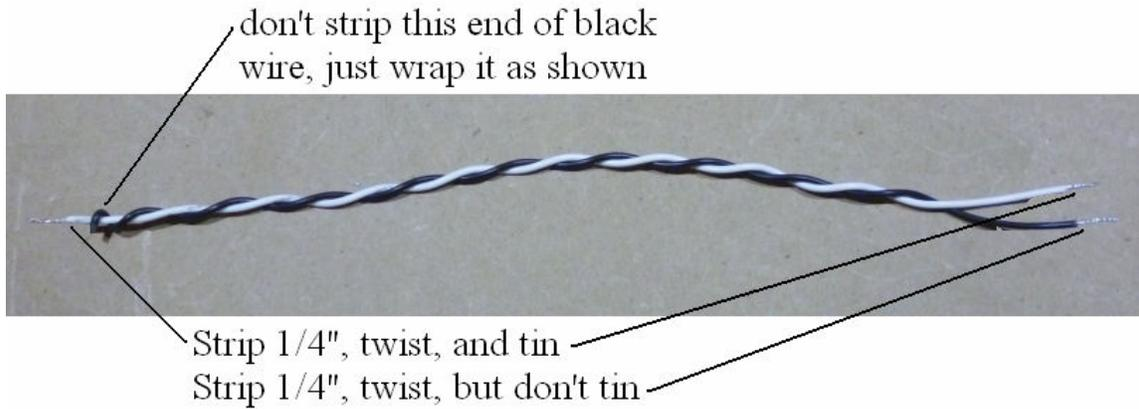

Figure 3-Preparing the 9" black/white twisted pair for the bridging harness
4. Prepare a 9" length of black/white twisted wire as follows, so the result looks like Figure 3.
- d. Wrap the insulated black wire around the end of the white wire as shown in the left side of Figure 3